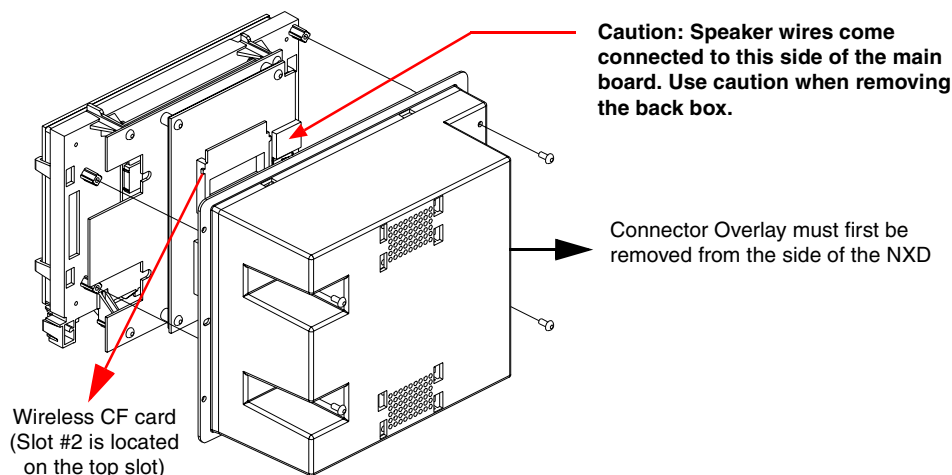

FIG. 23 Location of the wireless CF card connector on main board
7. Gently lay the back box to one side of the unit. This exposes the internal circuit board (FIG. 23). Take care not to place undue strain on the speaker cables.